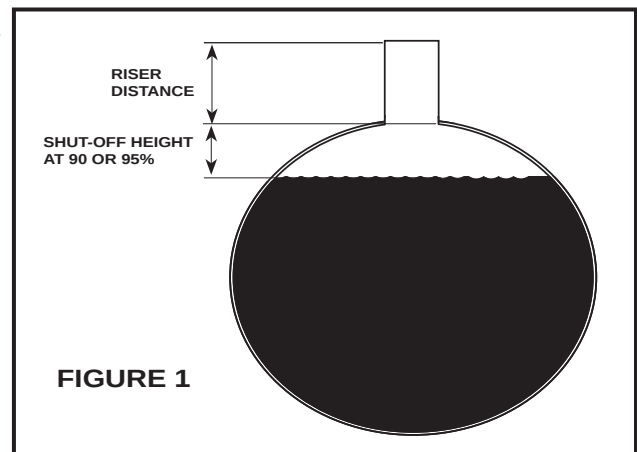

FIGURE 1
2. Determine the SHUT-OFF DISTANCE at 90 or 95% full. (See Fig. 1 & Mfg. tank ullage chart). Record this distance as you will need it later when installing the valve.
4. Measure from the top of the tank up to the point where the valve is to be attached. This is your Riser Distance shown in Fig. 1. Record this length. **Note:** this distance needs to include all pipe fittings, spill containers, etc. all the way up to the point where the valve is to be attached.
6. Now you can make piping adjustments to insure that the line on the float will be in the tank at your desired shut off point when the unit is installed into the tank. To make these adjustments you can change the Riser Distance shown in Fig. 1. Lastly, you can make minor adjustments by moving the floats up or down. To do this loosen the allen screws on the float adjustment collars, shown in Fig. 3 (2 float) or Fig. 5 (3 float), move the floats up or down, and then tighten the allen screws.